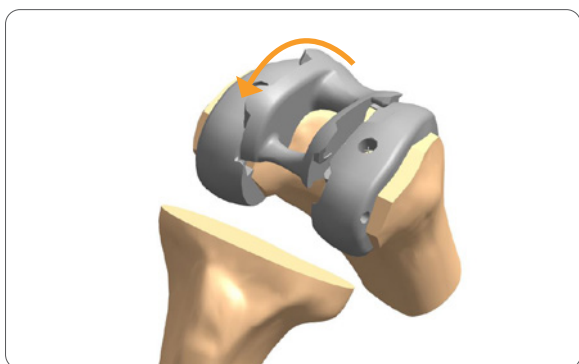

Figure 45
6. Position the anterior tabs of the JOURNEY II BCS Cam Trial into the Femoral Trial's anterior recess and rotate the Cam Trial posteriorly until the Femoral Trial detents have secured the Cam Trial (**Figure 45**).